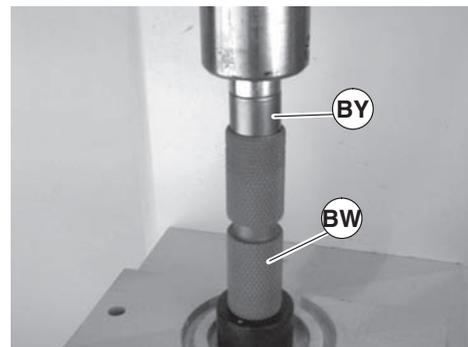

Figure 65
4. Press bearing (Figure 65, item BY) into pulley (BW) until seated.